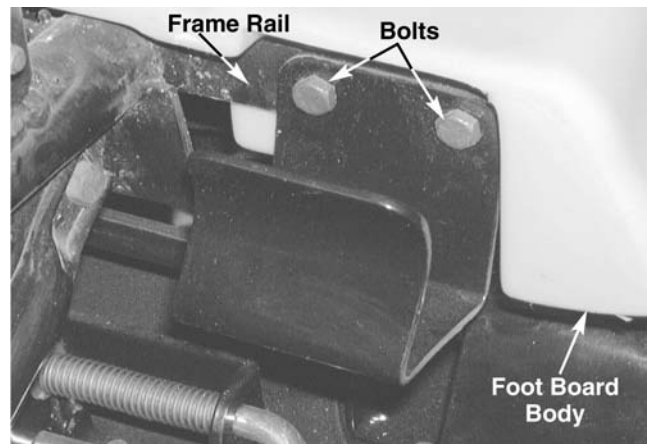

Figure 10-8.
16. Remove all four hex bolts securing the rear of the foot board body to the center frame rails using a 1/2" socket. See Figure 10-8.